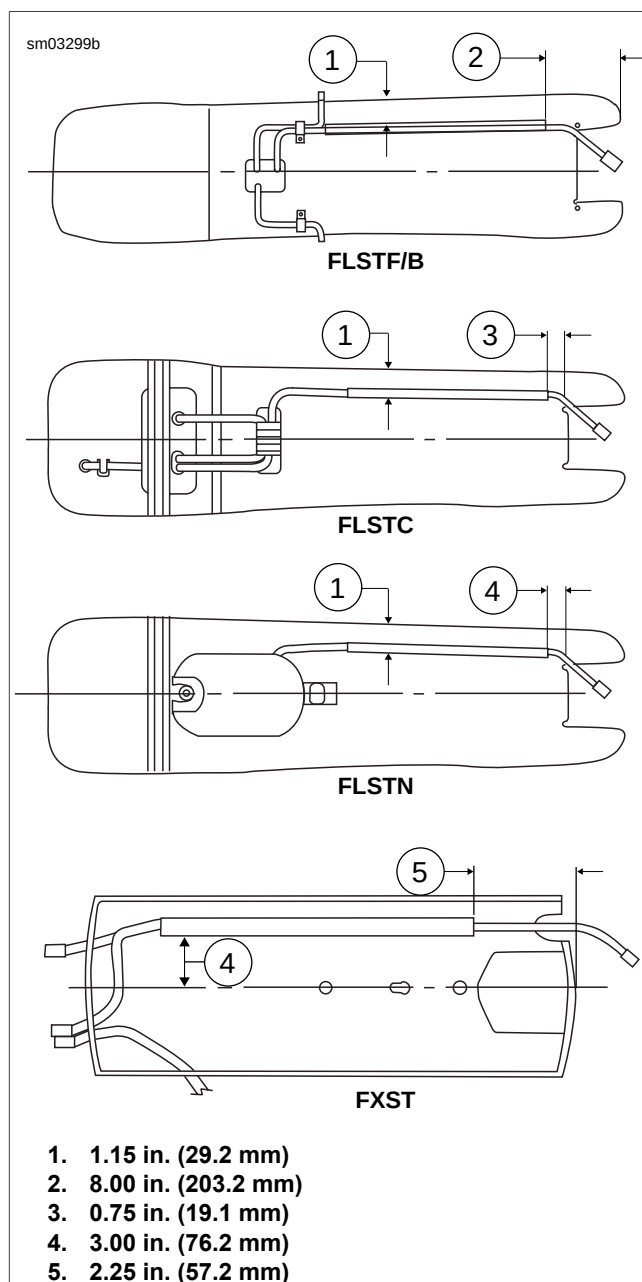

Figure 2-121. Conduit Placement
8. See Figure 2-121. Lightly position the conduit in place.